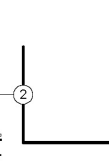

Figure 3
3. Ripple rejection (Figure 3)
Adding Crip. to the ripple terminal 2 as shown in Figure 3, the ripple rejection ratio is improved from -25dB to -45dB.